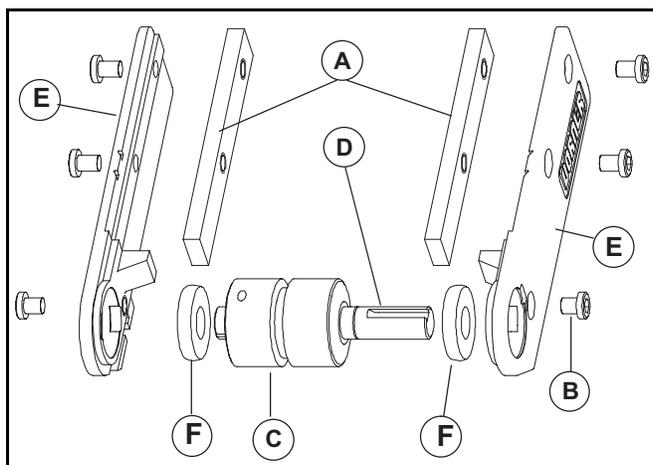

Figure 3
1. Typical components (Figure 3)
3. Determine required orientation for output shaft (Figure 3, item D).
4. Insert slide bars (Figure 3, item A) into 2100 frame.